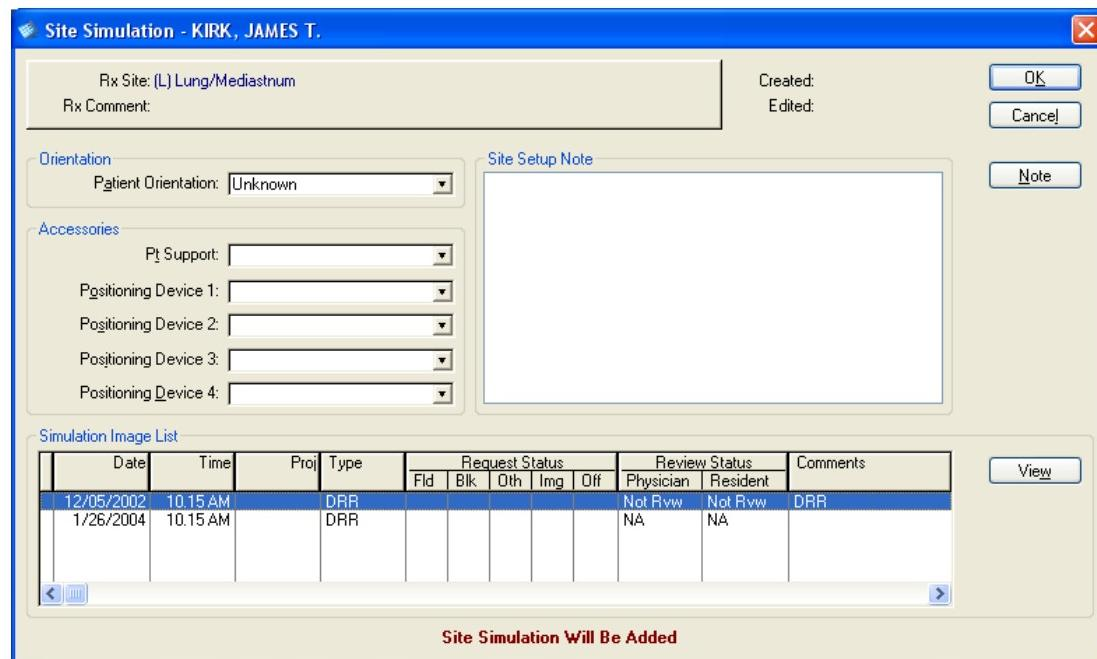

Figure 16: Site Simulation Dialog Box
2. In the *Add* group, click **Simulation**, then click **Site** to open the Site Simulation dialog box, shown in Figure 16.